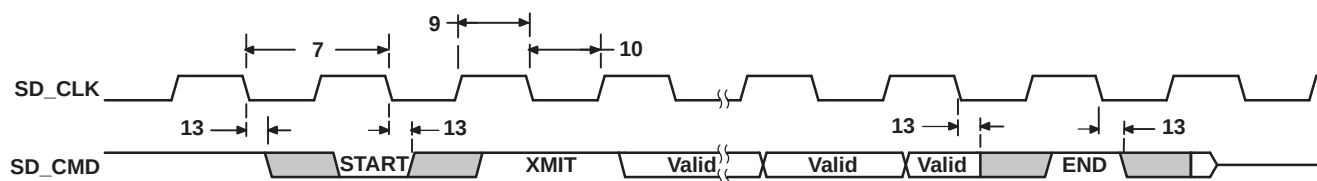
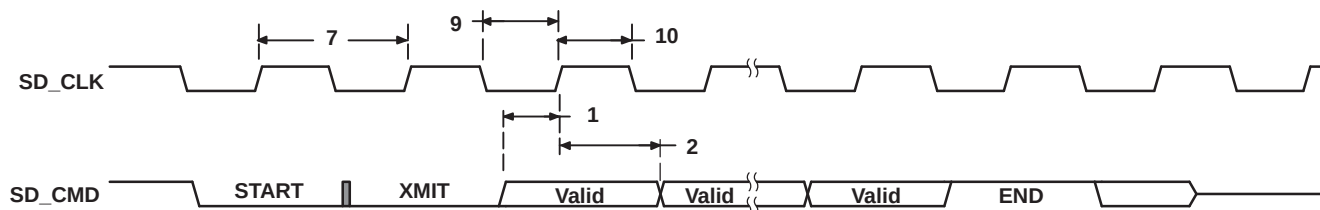
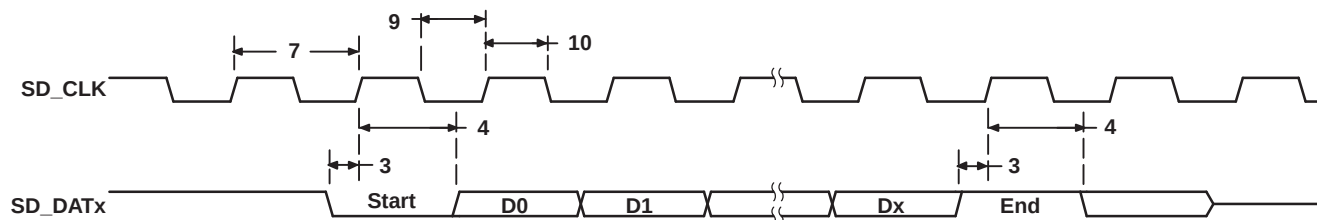

**Figure 6-42. MMC/SD/SDIO Host Command Timing**
**Figure 6-43. MMC/SD/SDIO Card Response Timing**
Figure 6-45. MMC/SD/SDIO Host Read and Card CRC Status Timing
(see Figure 6-43 and Figure 6-45)
**Table 6-45. Switching Characteristics Over Recommended Operating Conditions for MMC/SD/SDIO Module(1)** (see Figure 6-42 through Figure 6-45)